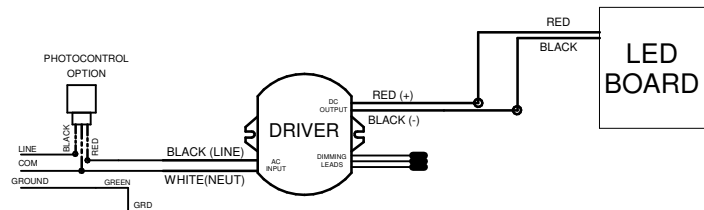
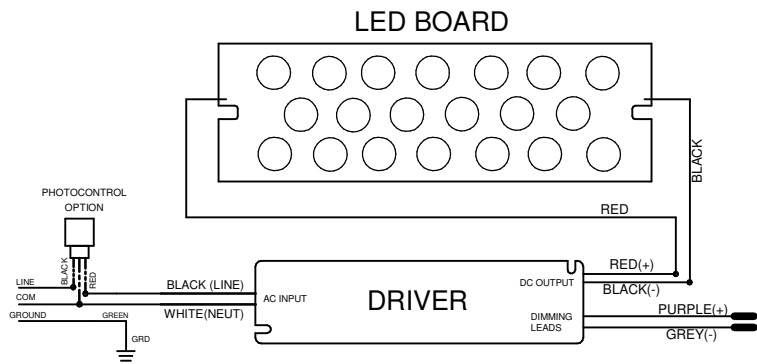

Fig 5A: WIRING DIAGRAM FOR FSL FLOOD
Fig 5B: WIRING DIAGRAM FOR FML FLOOD
- Connect the Photocontrol as shown in Fig. 5A or Fig 5B.